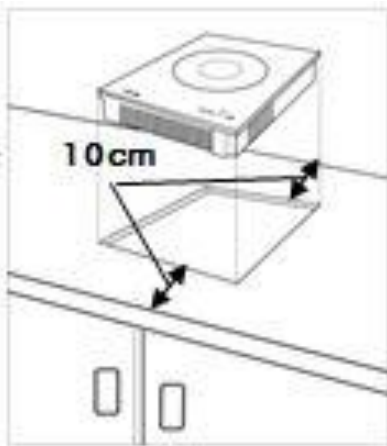

FIGURE 1 (MINIMUM CLEARANCE)
- Cut an opening as shown in Figure 1.